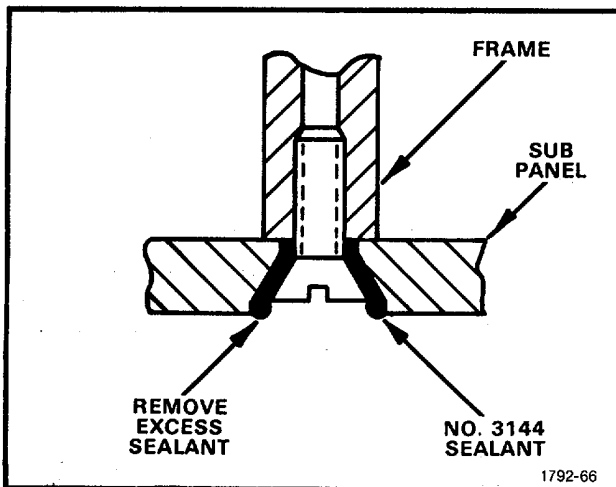

Figure 5-12. Detail of Subpanel screwhole sealing.
**12. Attach Subpanel to the three Frame Sections (See Fig. 5-12)**
1. Fill the countersunk screw holes on the Subpanel with No. 3144 sealant. See Fig. 5-12.